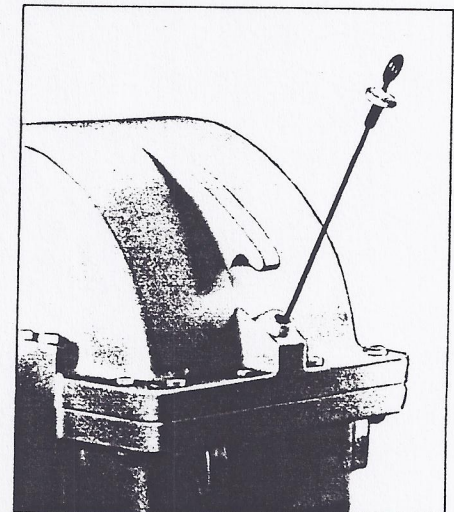

Figure 24
- a. Fill gear reducer with quantity and type of oil as specified in lubrication Chart No. 4. Oil level must always come up to mark on the dipstick. See illustration in Figure 24.